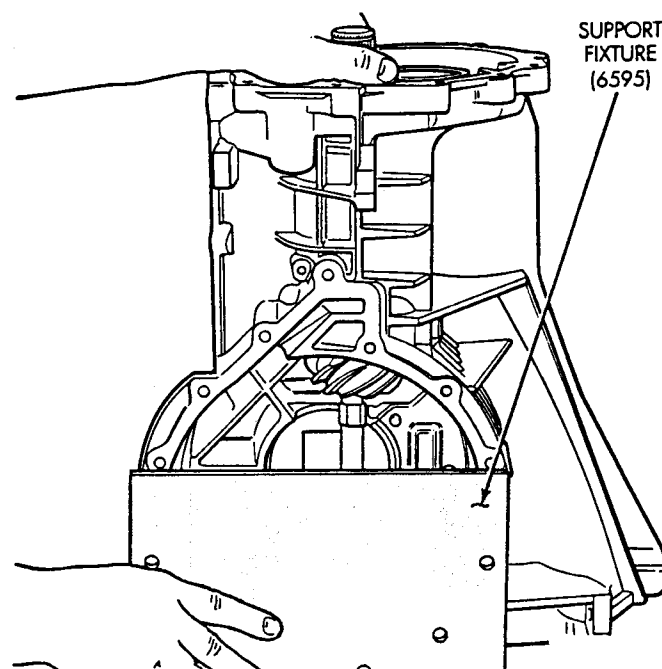

Fig. 24 Transfer Shaft Support Fixture
(28) Install transfer shaft support fixture (special tool 6595) (Fig. 24).